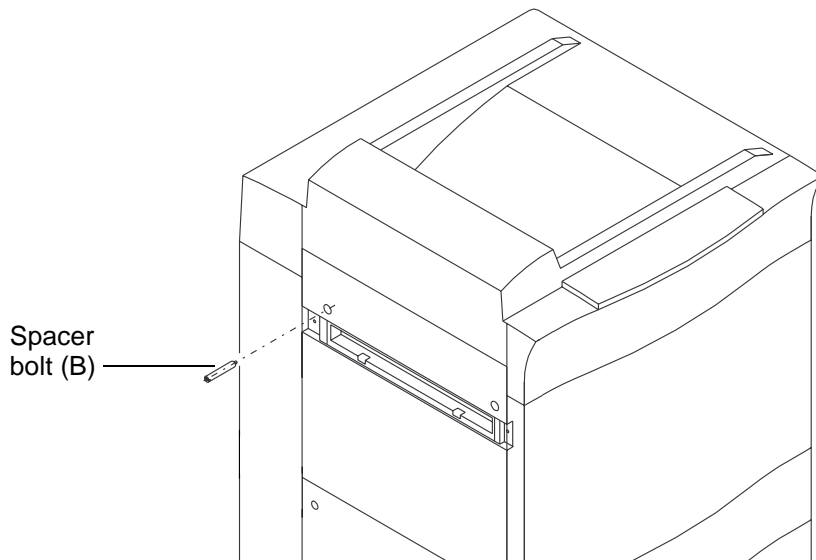

Figure 11 Inserting spacer bolt (B)
Step 3 Insert spacer bolt (B) into the upper cover hole (where the screw was). See Figure 11.